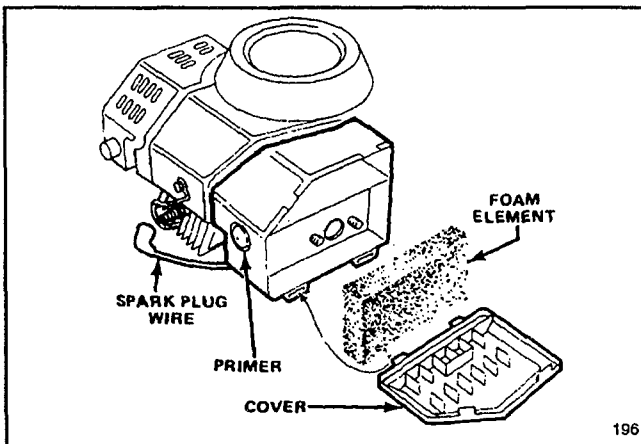

Figure 18
1. Stop engine and pull wire off spark plug (Fig. 18).
2. Lift tabs at top of air cleaner cover and pivot cover down. Clean cover thoroughly (Fig. 18).
3. If outside of foam element is dirty, remove it from air cleaner body (Fig. 18). Clean thoroughly.